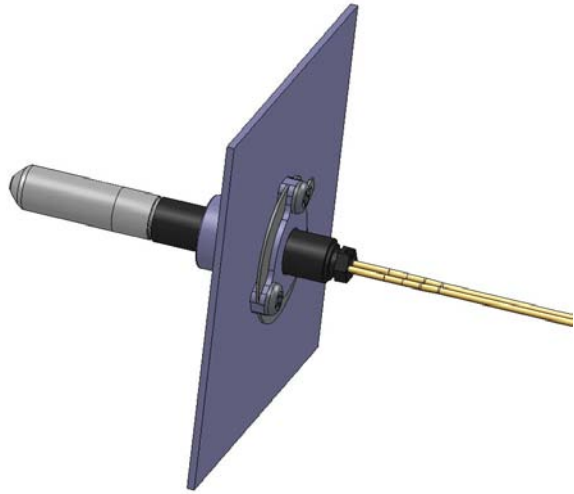

Figure 3 Mounting the Flange Through Wall
- To fit the flange through the hole as in Figure 3, use a 22mm hole.